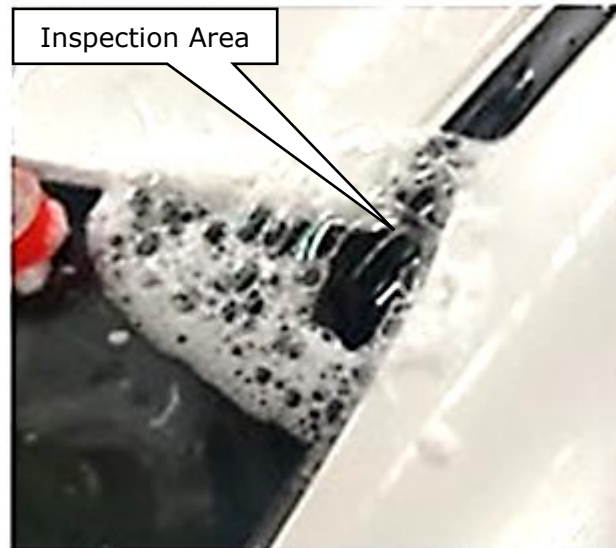

Figure 19
- Do air bubbles appear at the upper right corner of the rear window glass due to a compressed air leak path? (refer to Figure 19 below)